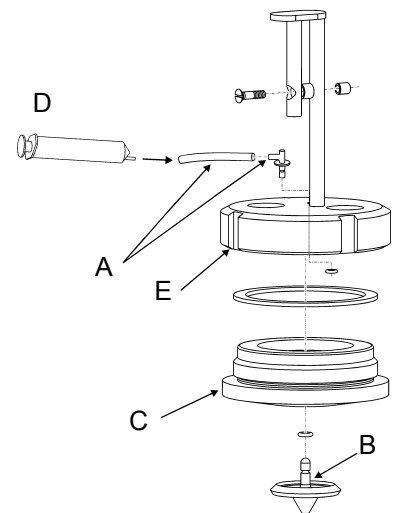

Figure 4.1 Spoon assembly
Thoroughly flush the coupling piece and the tube connection (A, figure 4.1) with the aid of a syringe (D). Replace the tube if it is not clean enough after flushing with the syringe.